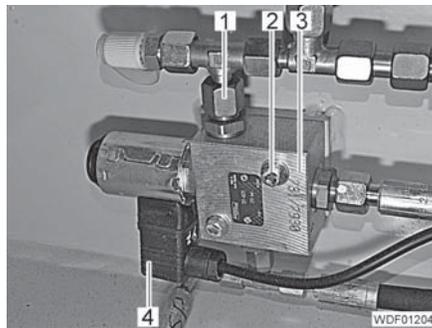

Fig. 143 3/2-way valve
- Unscrew and close off the 3 hydraulic lines (Fig. 143,1).
- Unscrew screw on plug (Fig. 143,4), remove plug and protect the contacts (e.g. with protective cap).
- Unscrew the 2 screws (Fig. 143,2) and remove the 3/2-way valve (Fig. 143,3).
- Position the 3/2-way valve (Fig. 143,3).
- Insert and tighten 2 screws (Fig. 143,2) with spring lock washers and disks.
- Attach the plug (Fig. 143,4) to the contacts and secure it with a screw.
- Screw the 3 hydraulic lines (Fig. 143,1) onto the connections on the 3/2-way valve and tighten.